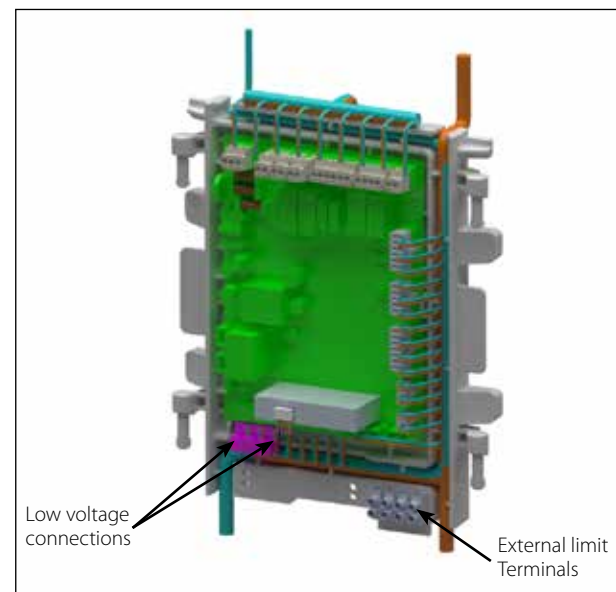

Fig. 26 - Low Voltage Connections
1. Connect the DHW aquastat or temperature sensor wires to low voltage terminals X4-1&2 located at the bottom of the CTRLMax control module as shown in *Fig. 26 on page 42*.
3. Connect the external limit wires to the Manual Reset Limit or Auto Reset Limit low voltage terminals located on the lower right corner of the CTRLMax control module housing as shown in *Fig. 26 on page 42*.
1. Connect the system temperature sensor wires to low voltage terminals X5-3&4 located at the bottom of the CTRLMax control module as shown in *Fig. 26 on page 42*.